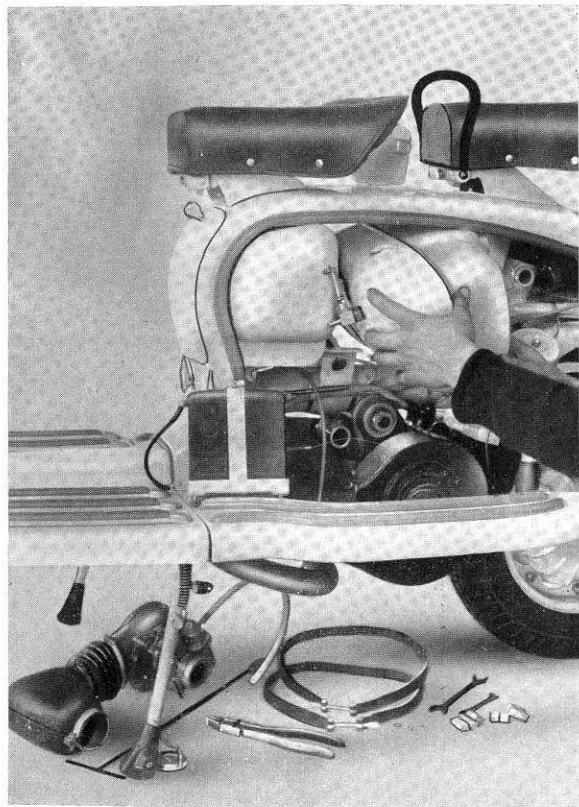

Fig. 35
- 59** To remove lower buffers, remove trailing link pin (19mm spanner), unscrew grease nipple under the lever, remove screws fixing buffer (10mm spanner) remove buffer with the aid of a screwdriver. See Fig. 35.